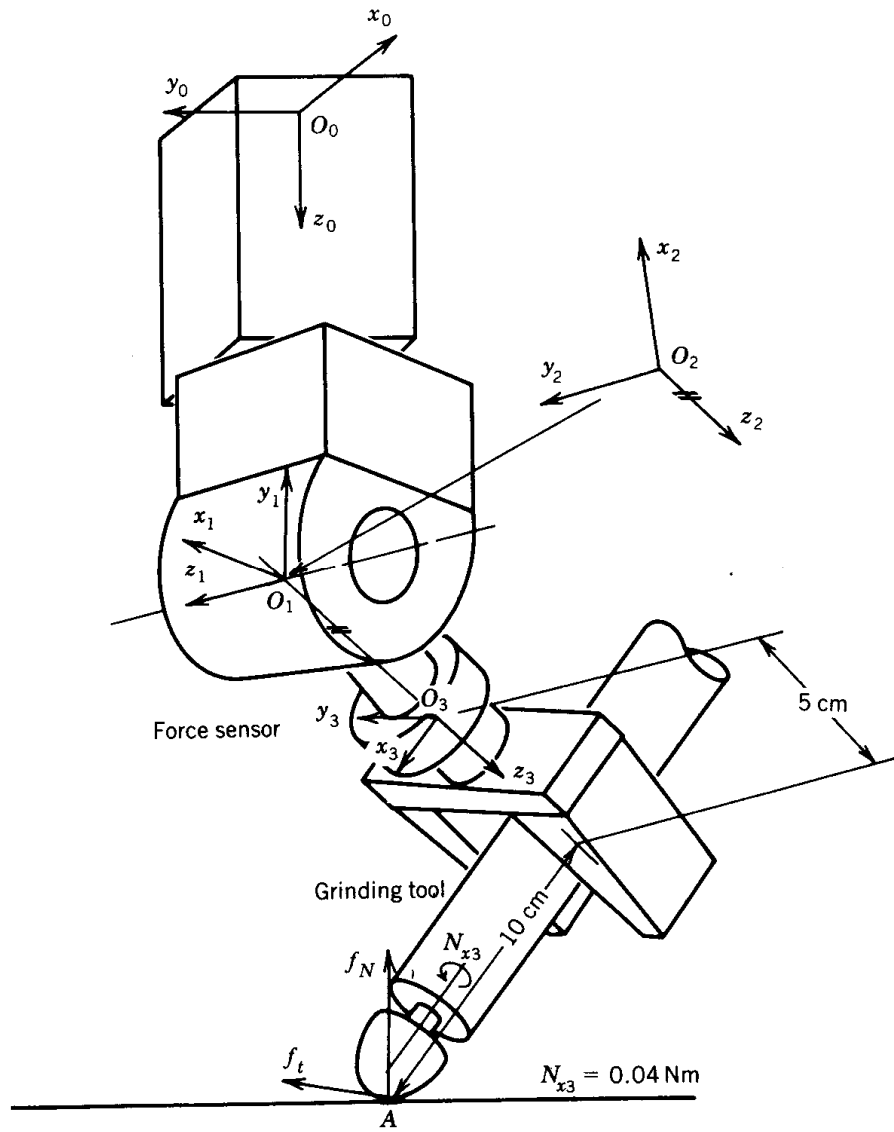

Figure 3. Wrist joints of PUMA with grinding tool
3. Figure 3 shows the three wrist joints of a PUMA 600. The kinematic configuration of the wrist joints is defined in Table 1, with reference to the coordinate frames shown in Figure 3.